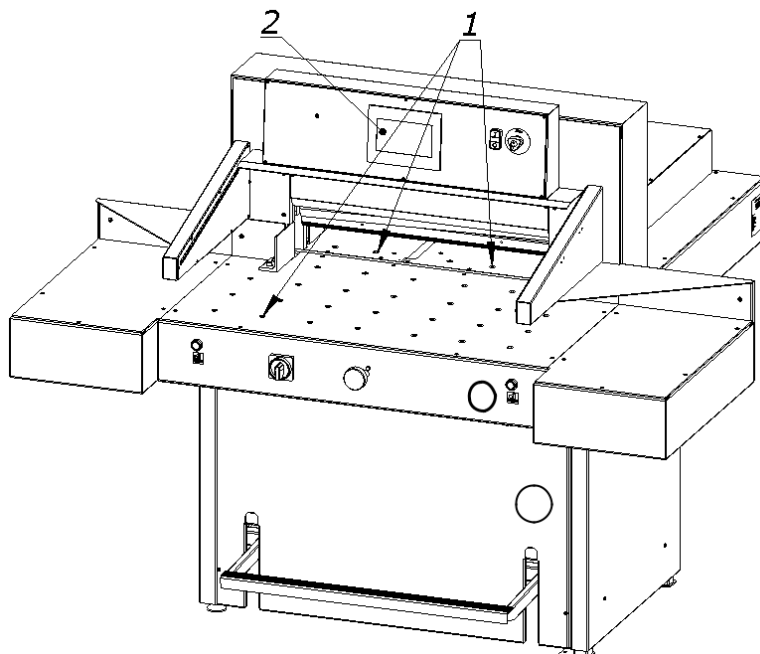

Figure 20.
The surface of the cutter table is equipped with air nozzles 1 (fig.20).
To turn on the air supply press the blower button  on the programmer 2 screen (Figure 20).
8.1.1.2 Pressing the push buttons 2  (fig.20) at the same time, start the cutting cycle. The knife 3 is held in the lower position.